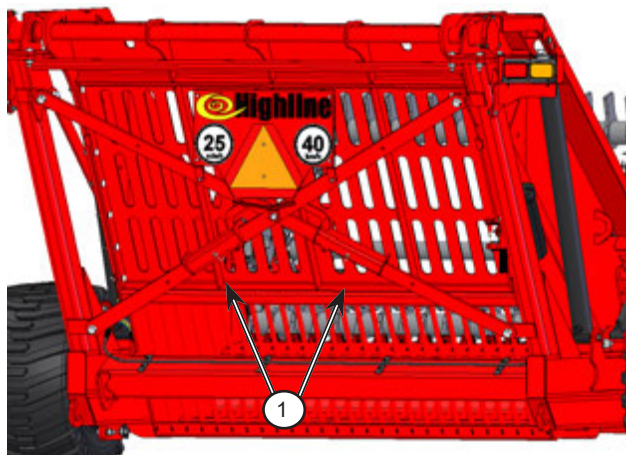

Figure 6.4: Place bucket lift locks in storage position
4. Store the bucket lift locks (1) on the rear cross-bracing of the machine; see *Figure 6.4*.